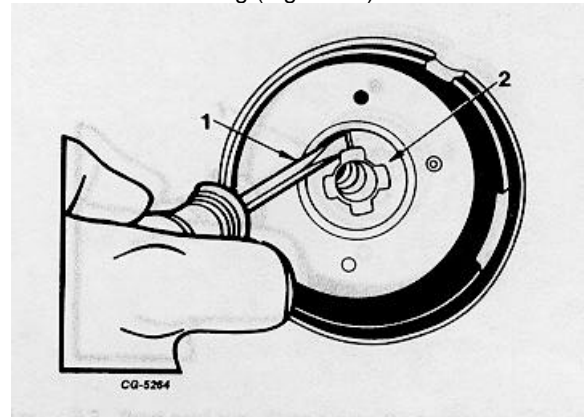

Fig. 23. Removing Grease Retainer Washer (Distributors Without Tachometer Drive)
1. On distributors without tachometer drive, use a small screwdriver to pry upper bushing grease retainer washer from distributor housing (Figure 23).